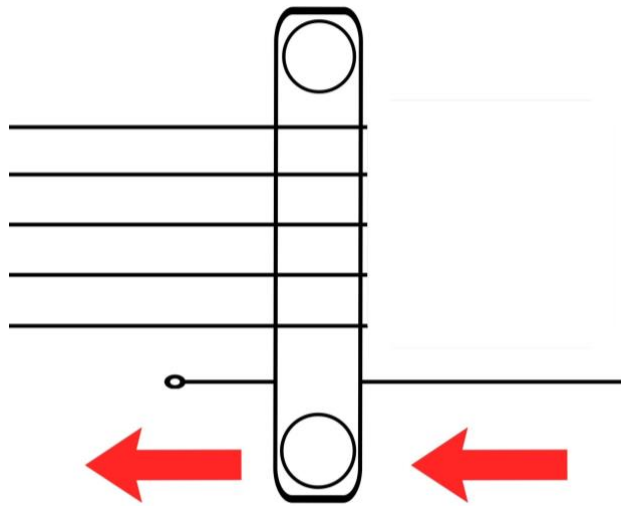

Figure 2: How to remove the strings from the bridge.
4. Remove the bottom half of the strings from the bridge by carefully pushing them through the bridge hole (located underneath the bridge on the left side) and removing them (see Figure 2).